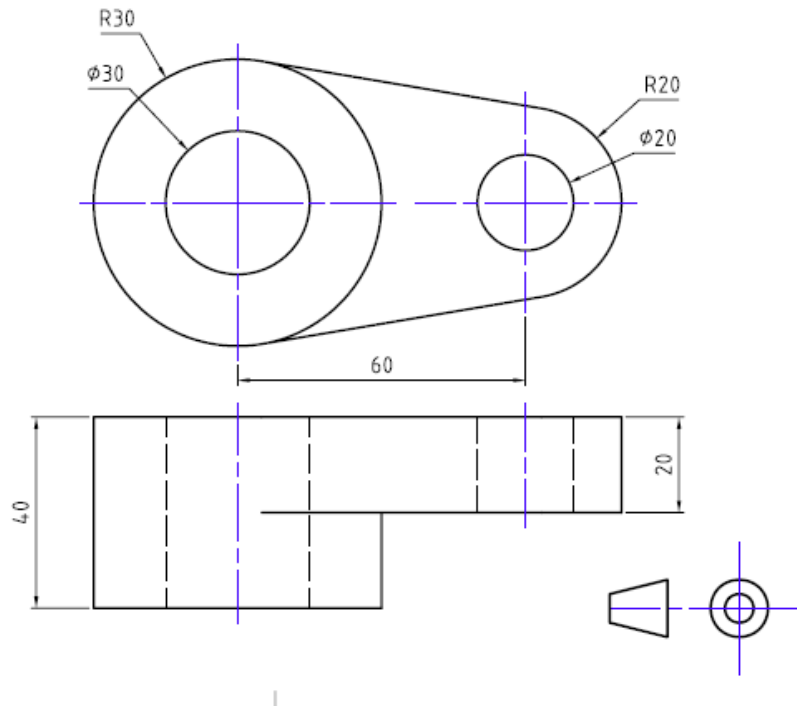

Figure Q2 (b)
- a) **Figure Q2 (a)** shows orthographic views of a milling machine bracket. Draw an isometric view of the bracket with corner A as the lowest point on the drawing (10 marks)
- b) **Figure Q2 (b)** shows the orthographic views of a belt tensioning bracket. Draw an oblique view of the object in cavalier projection using a receding angle of 30° . (10 marks)